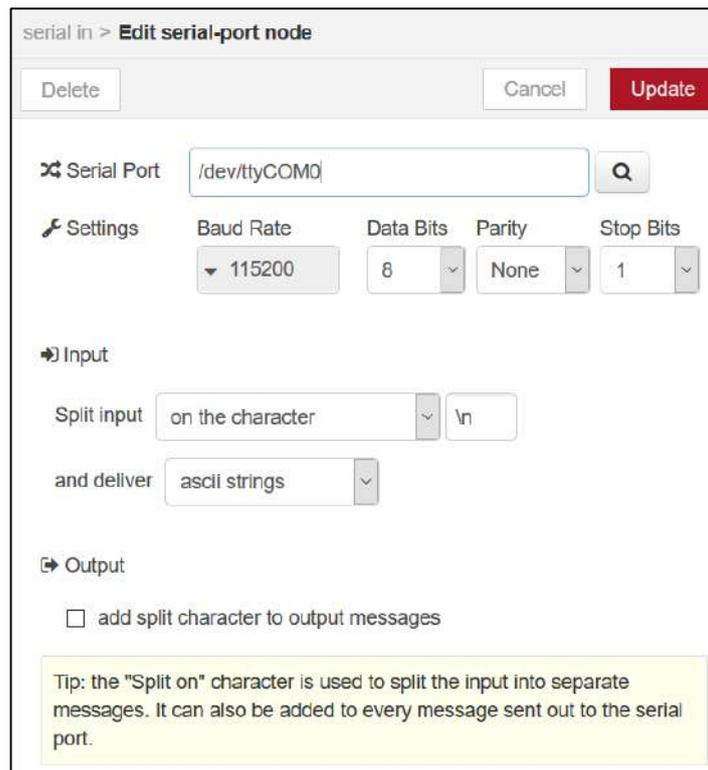

Figure 7.22 Serial Read Node port configuration options
- **Serial port:** defines on which serial port Node-RED should listen to. Click on the *"pencil"* icon to open up the window shown in Figure 7.22.
Figure 7.22 shows the Serial port configuration options. The meaning of the fields is explained below:
- **Serial port:** defines on which serial port Node-RED should write data to. Click on the “*pencil*” icon to open up the window shown in Figure 7.22.